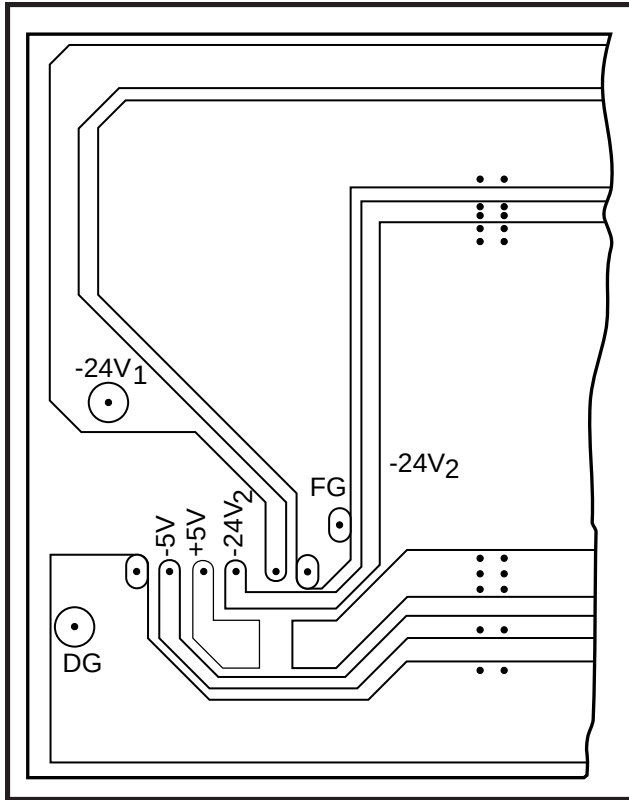

FIGURE 5-6
- 3) On the lower left side of the backplane PCB (PMB-824), the test points for the various voltages are marked. Refer to Figure 5-6.